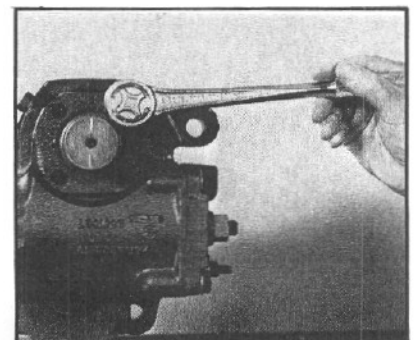

Figure 36
4. Remove the four trunnion cover bolts (28) with a 1/2 inch socket (FIG. 36).